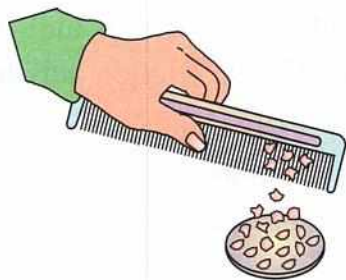

Fig. 3.17 : Electrostatic force of attraction makes the bits of paper move towards the comb
- (b) **Electrostatic force** between two charged bodies at a distance either repel or attract each other. Unlike charges attract while the like charges repel. If a plastic comb rubbed on dry hair is brought near small bits of paper, we find that the bits of paper begin to move towards the comb (Fig. 3.17) because